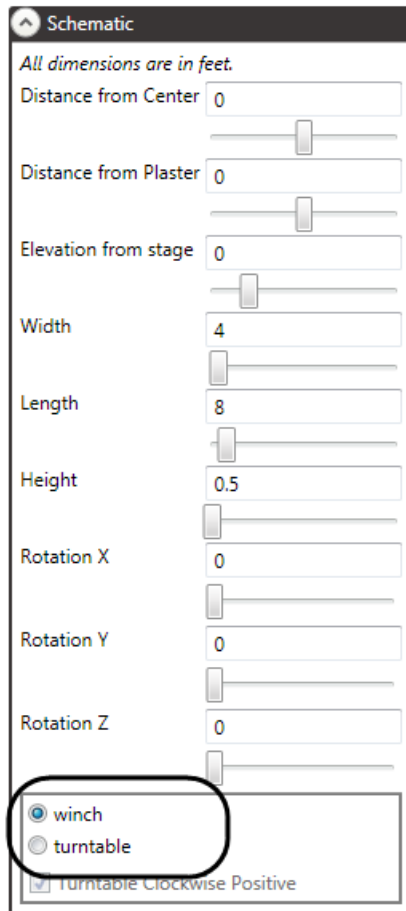

Figure 274
2. In the **Stagehand Editing Pane**, scroll until you find the **Schematic** section and make sure that **Winch** is selected at the bottom (Figure 274).